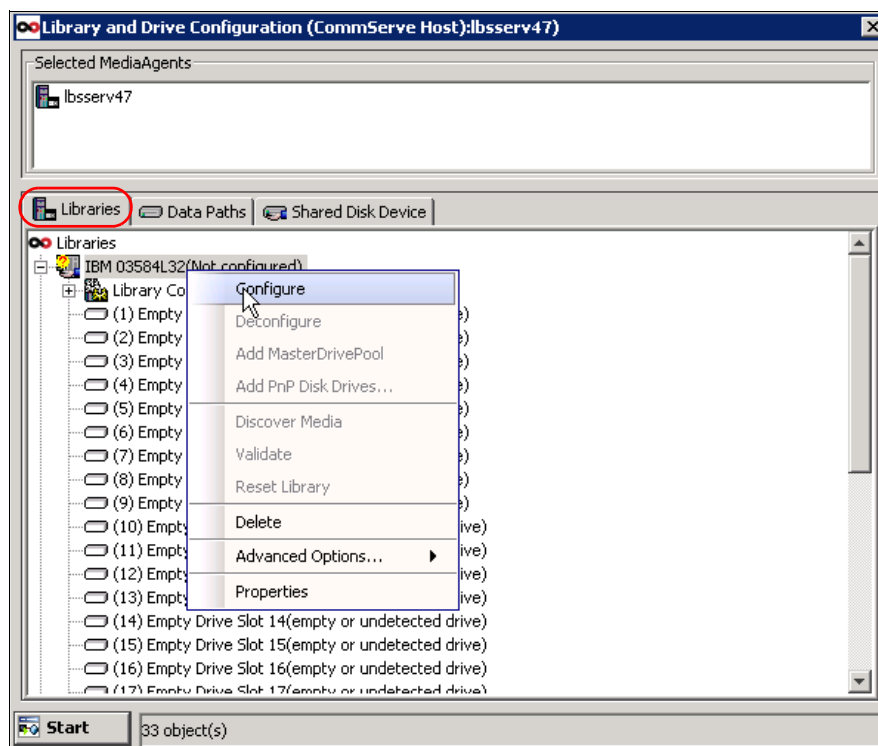

Figure 18-7 Configure the library robotics
9. In the General tab, open the current node and navigate to the **Libraries** overview (Figure 18-7). Right-click the unconfigured tape library tag and select **Configure**.